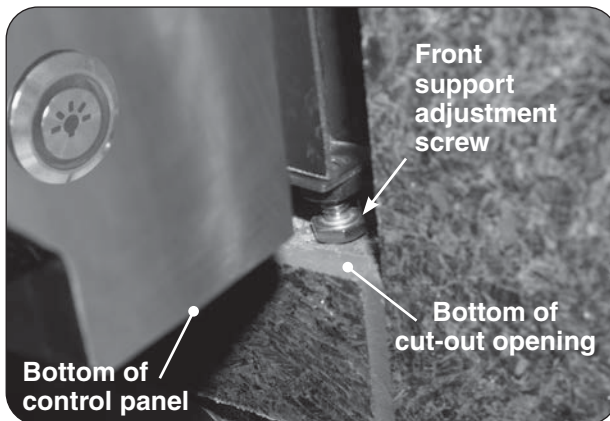

Fig. 20-3 Front support adjustment screws
2. Rotate the front support adjustment screws to the left to raise and to the right to lower the respective side of the appliance. Use a  $\frac{7}{16}$ " open-end wrench as needed. See Fig. 20-3.